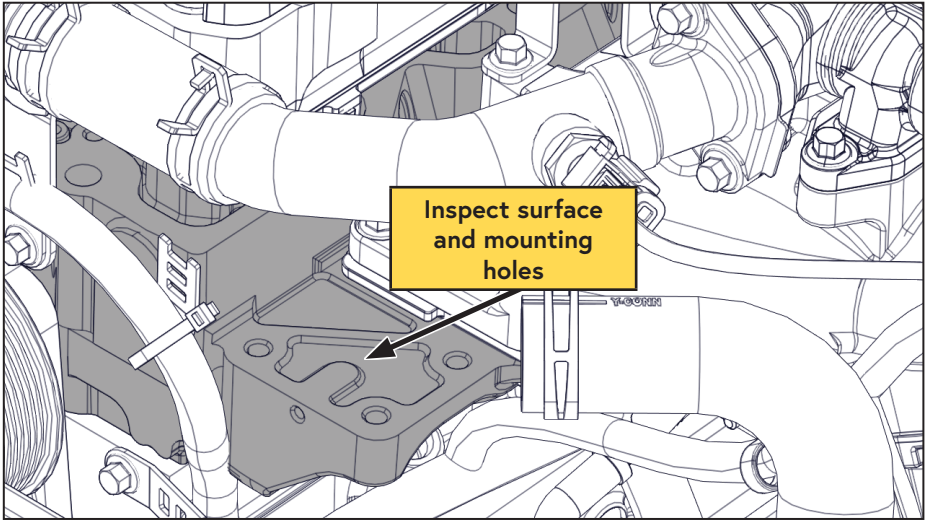

Figure 14 — Compressor bracket mounting surface
- Ensure the mounting surface and (x3) M10 threaded holes are clean and free of debris (Figure 14).